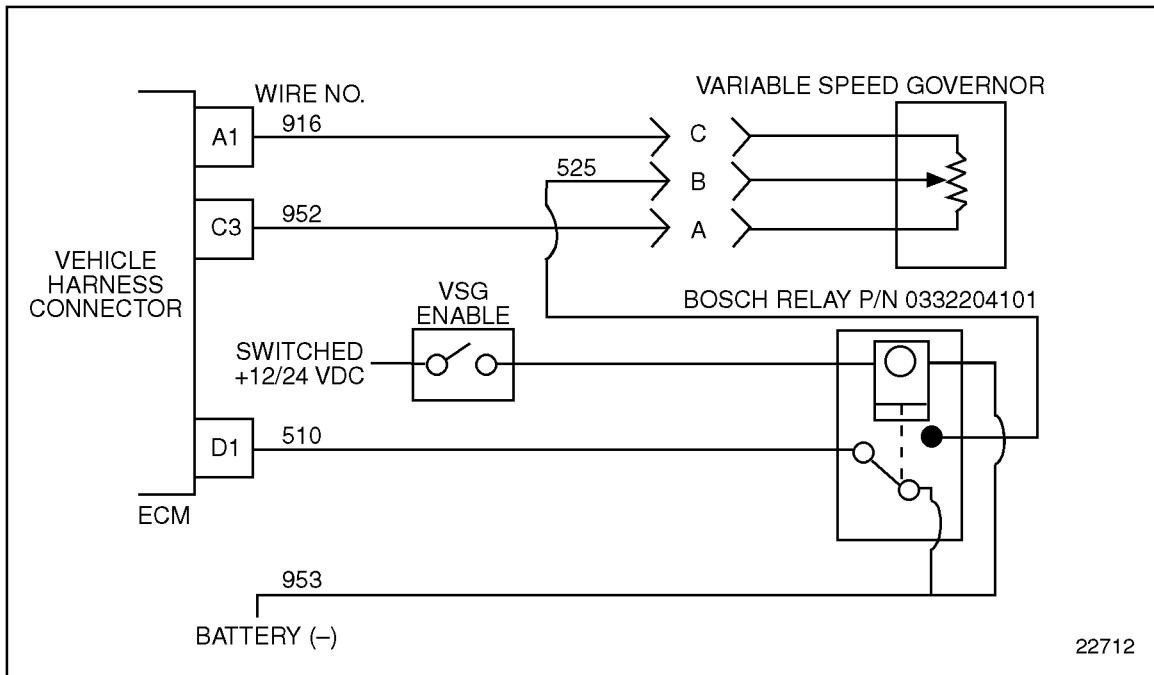

Figure 11-2 Variable Speed Governor Circuit
2. Inspect the terminals at the hand throttle sensor connectors (sensor side and harness side) for bent, corroded and unseated pins or sockets. See Figure 11-2.